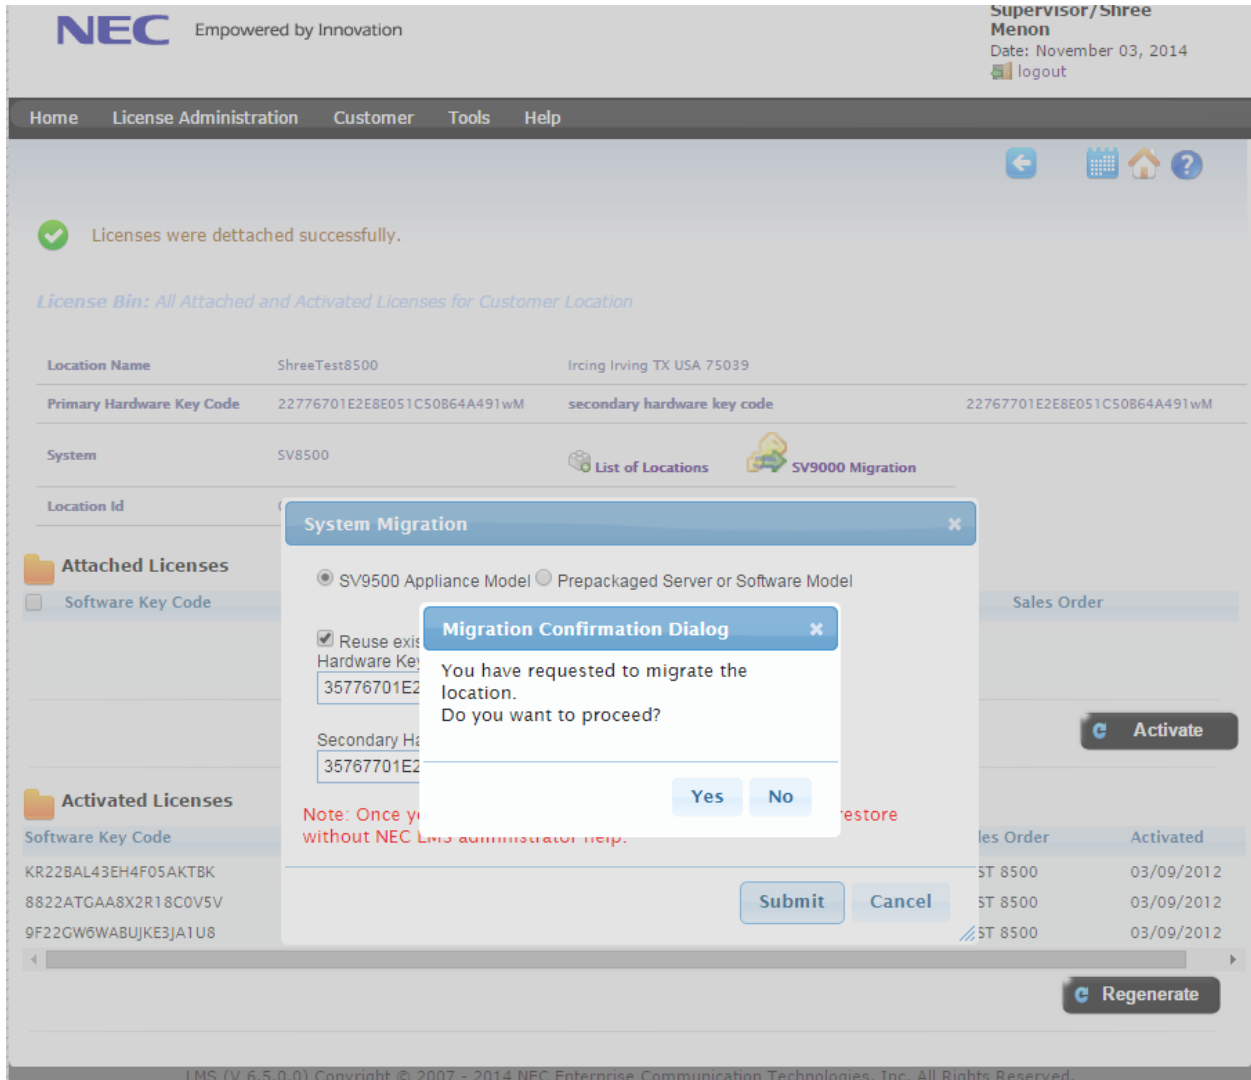

Figure 11
4. Upon clicking 'submit' the LMS prompts the user to confirm whether to proceed with migration as shown in Figure 11.